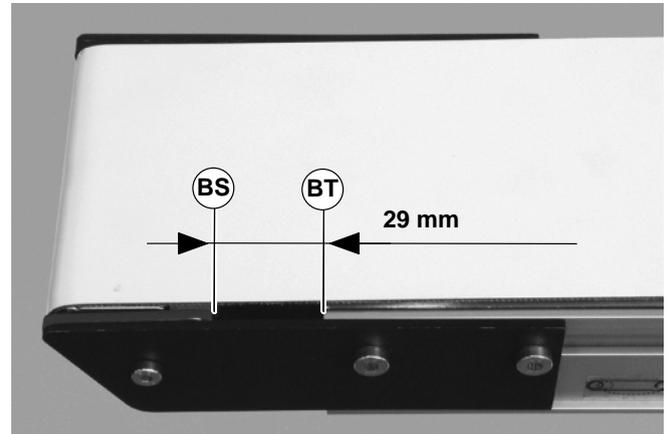

Figure 40
2. Adjust head plate assembly so the edge of the axle support plate (BS of Figure 40) is separated from the end of the conveyor (BT) by 29 mm. Tighten fastening screws (U of Figure 39) on both sides of conveyor to 7 Nm.